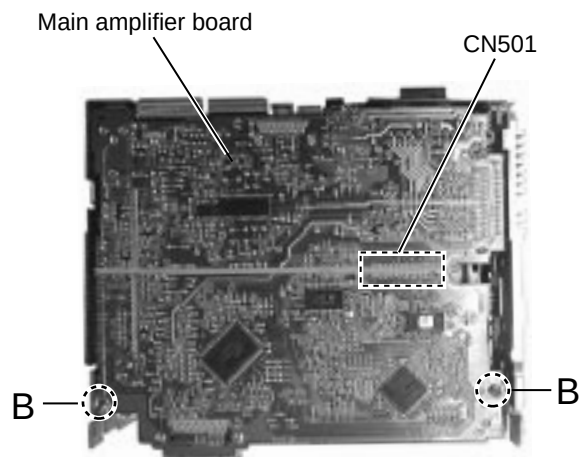

Fig. 5
■ Removing the main amplifier board (See Fig.5 and 6)